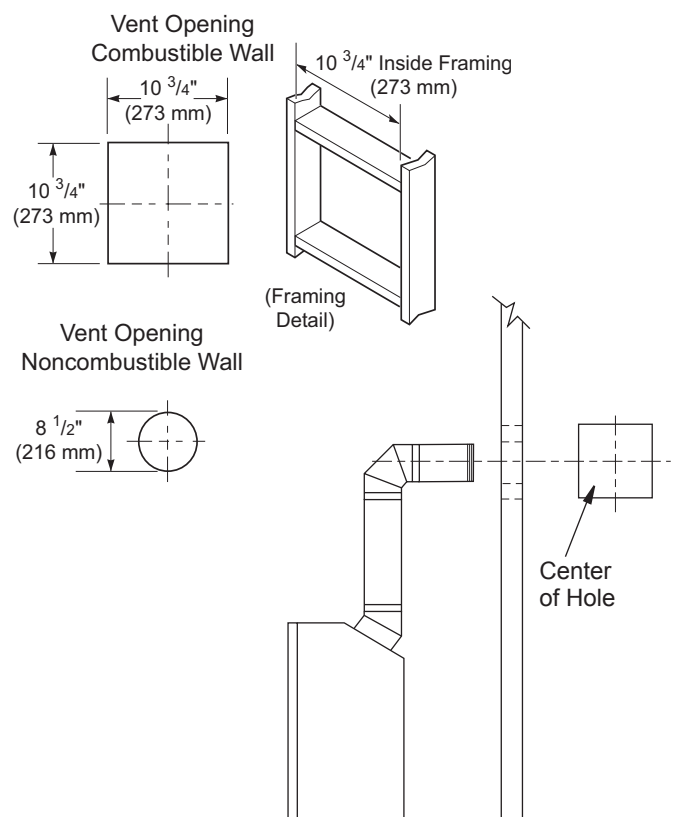
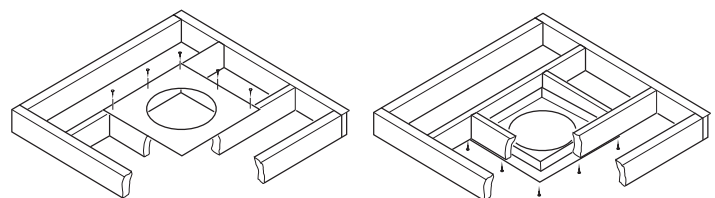

Figure 9 - Vent Opening Requirements
Figure 20 - Installing Firestop
5. Carefully determine the location where the vent pipe assembly will penetrate the outside wall. The center of the hole should line up with the center-line of the horizontal vent pipe. Mark the wall for a 10 ³/₄" x 10 ³/₄" square hole. Cut and frame the square hole in the exterior wall where the vent will be terminated. If the wall being penetrated is constructed of noncombustible material, such as masonry block or concrete, a 8 ¹/₂" hole with zero clearance is acceptable (see Figure 9).
1. Cut a 10 3/4" square hole in the ceiling using the locating hole as a center point. The opening should be framed to 10 3/4"x10 3/4" (273mm x 273mm) inside dimensions, as shown in Figure 9 on page 8 using framing lumber the same size as the ceiling joists. If the area above the ceiling is an insulated ceiling or a room, nail firestop from the top side. This prevents loose insulation from falling into the required clearance space. Otherwise, install firestop below the framed hole. The firestop should be installed with no less than three nails per side (see Figure 20).
3. Cut a hole in the roof using the locating hole as a center point. (Cover any exposed open vent pipes before cutting hole in roof.) The 10 3/4"x10 3/4" hole must be measured on the horizontal; actual length may be larger depending on the pitch of the roof. There must be a 1" clearance from the vent pipe to combustible materials. Frame the opening as shown in Figure 9, page 8.